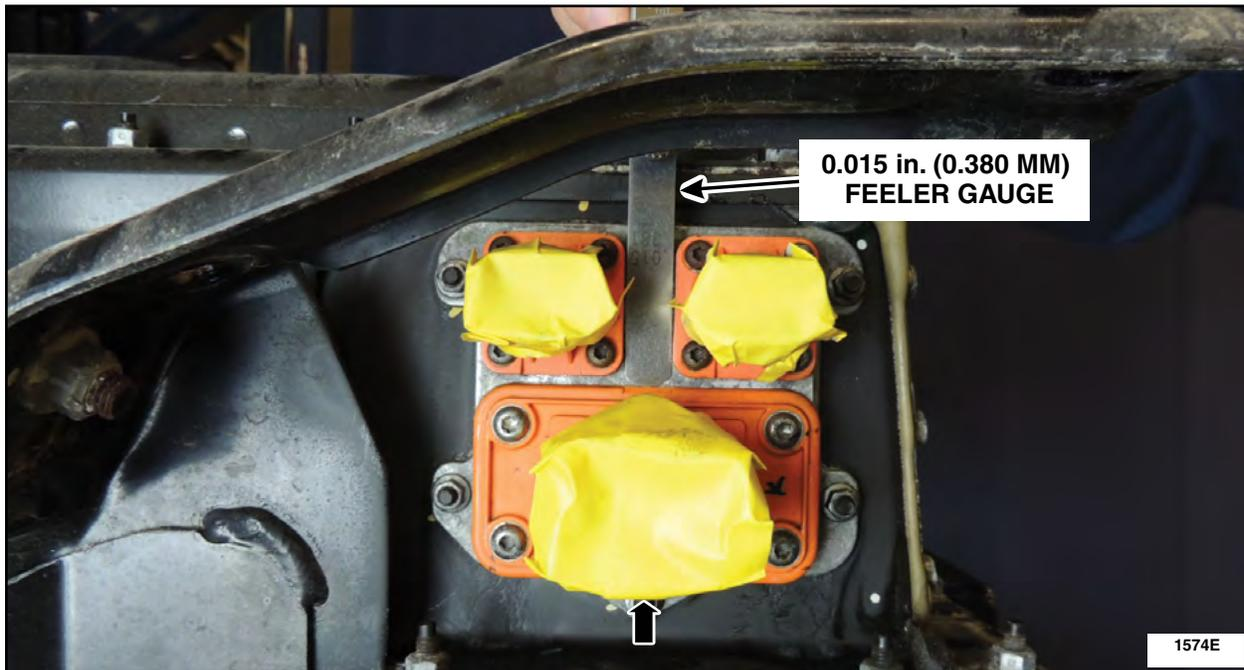

FIGURE 5
6. Attempt to insert a 0.015 in. (0.380 mm) feeler gauge between the aluminum plate and the top and bottom of the large high voltage connector. See Figure 5.